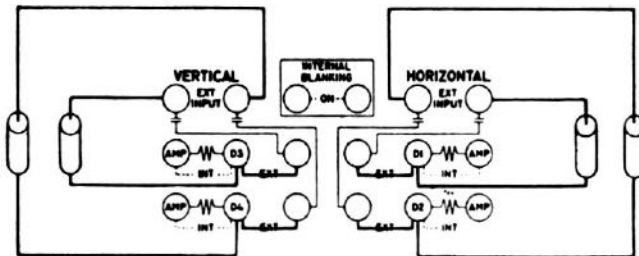

Figure 4-3A—Rear Terminal Board TB105 showing the addition of larger external capacitors.
(1) VERTICAL PLATES.—To apply voltages directly to the vertical deflection plates, change the jumpers on the vertical side of the board from "INT" to "EXT" connection as indicated by the dotted lines on the diagram appearing on the cover of TERMINAL BOARD TB105. The deflecting voltages may then be applied to the two terminals marked "EXT. INPUT". These terminals are isolated from the voltage on the deflection plates through capacitors C137 and C138. In observing very low frequency wave forms, the time constant of this input circuit may become objectionable. In this case, larger external capacitors may be connected between the terminals marked "EXT. INPUT" and the terminals marked D3 and D4 (See Figure 4-3A).
(2) HORIZONTAL PLATES.—To apply voltages directly to the horizontal deflection plates, change the jumpers on the horizontal side of the board from "INT" to "EXT" connection as indicated by the dotted lines on the diagram appearing on the cover of TERMINAL BOARD TB105. The deflecting voltages may then be applied to the two terminals marked "EXT. INPUT". These terminals are isolated from the voltage on the deflection plates through capacitors C139 and C140. In observing very low frequency wave forms, the time constant of this input circuit may become objectionable. In this case larger external capacitors may be connected between the terminals marked "EXT. INPUT" and the terminals marked D1 and D2 (See Figure 4-3A).